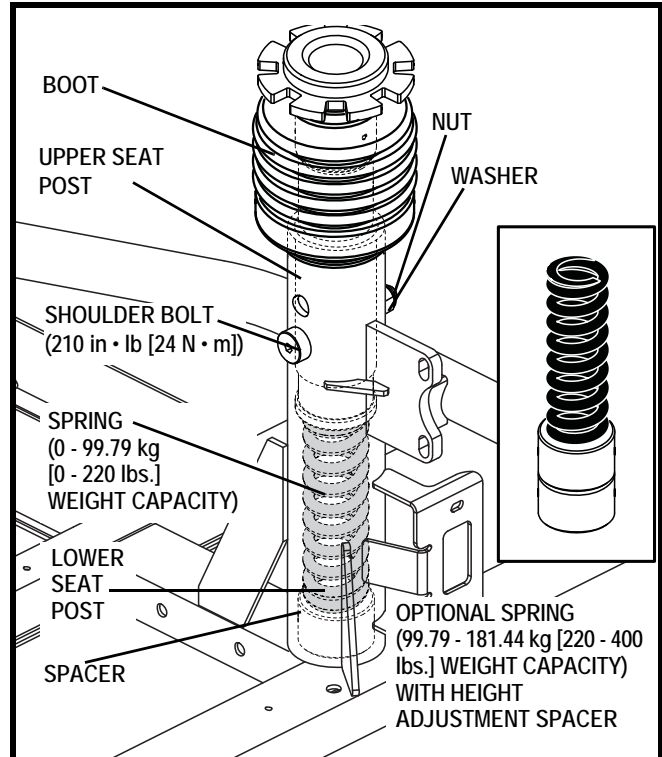

Figure 19. Seat Height Adjustment - Comfort Seat Post
4. Push down on the seat post while loosening and removing the shoulder bolt, washer and nut. **See figure 19.**
6. Install the desired spring. **See figure 19.**